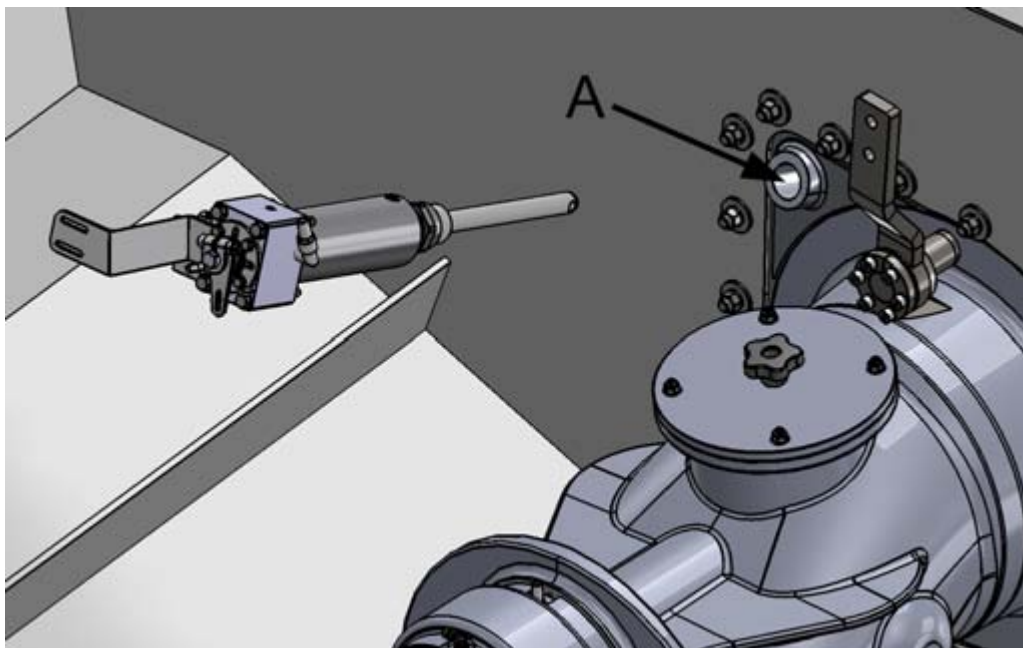

Figure 41. Attaching the hydraulic cylinder
3. Apply sealing compound (e.g. Sikaflex 221) on the bushing thread of the adapter part (figure 41, point A) so that the bushing hole is sealed completely.
4. Screw the hydraulic cylinder onto the adapter bushing (figure 41).